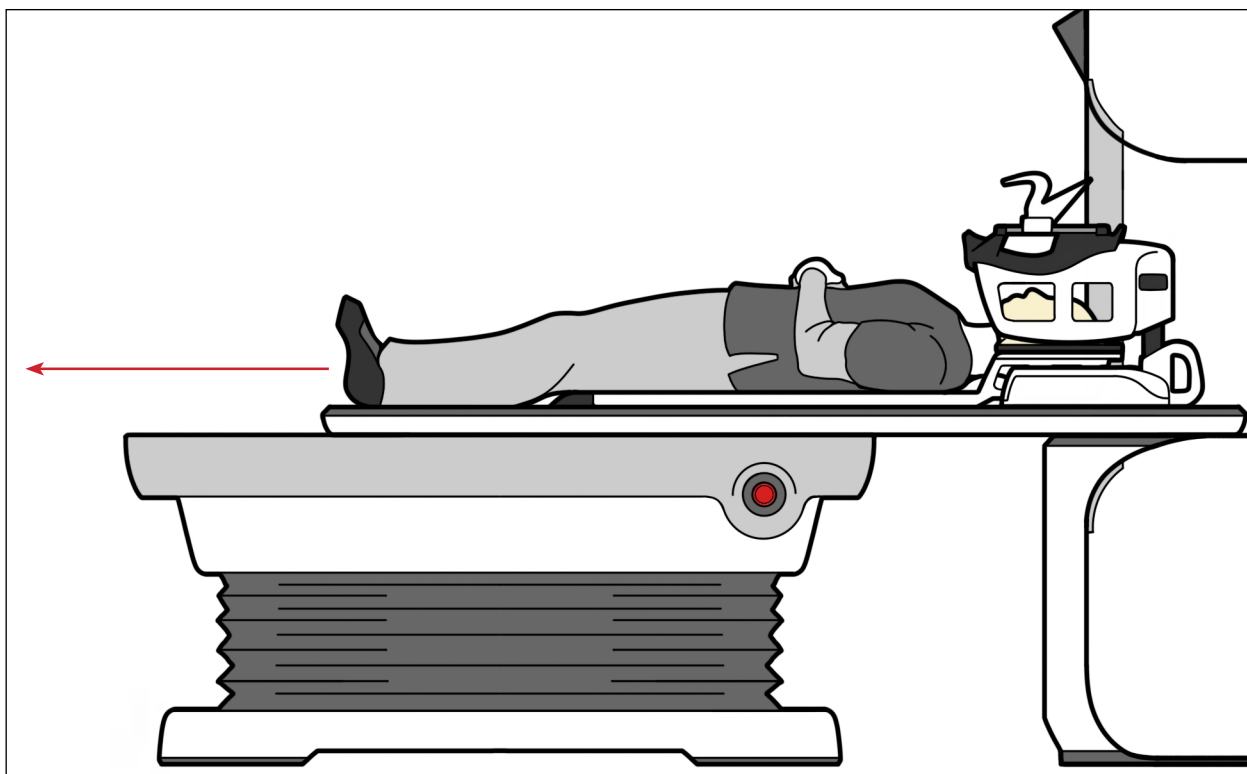

Figure 13
1. After imaging is complete, remove the patient from the MR Bore (Fig. 13).